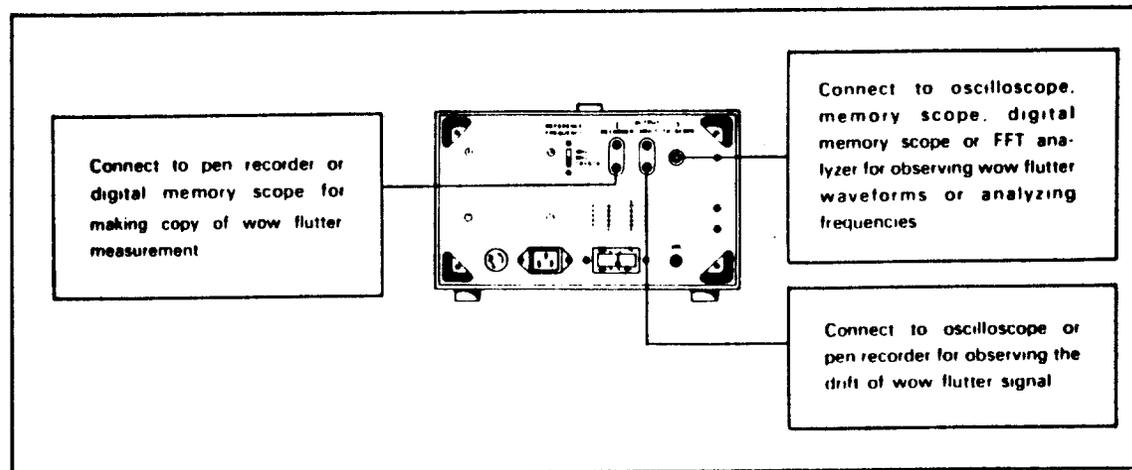

Fig. 5. Use of Terminals on Rear Panel.
**USE OF REAR PANEL TERMINALS** Refer to Fig. 5.